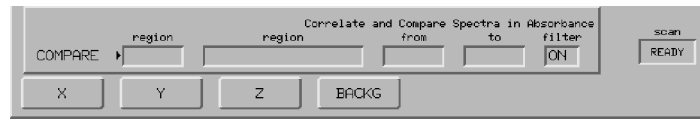

Figure 3-41 Command Line and Soft Keys for Compare
*The command line and soft keys in Figure 3-41 appear, with the cursor at the first **region** field.*